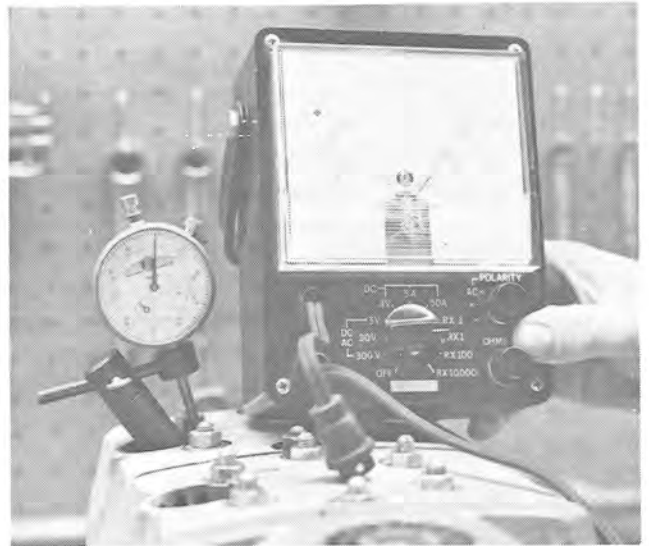

FIG. 1-67
- D. Rotate flywheel counterclockwise to top dead center and adjust dial to zero. Place selector knob on ohmmeter to R x 1. Ohmmeter needle will indicate a closed circuit. See Fig. 1-67.